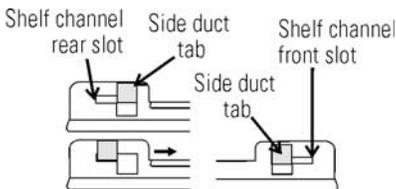

Figure 1-11
3. Install the shelf channels by placing the channel's rear slot over the appropriate rear tab on the side duct. Pull the shelf channel forward and engage the channel's front slot into the side duct's appropriate forward tab. Refer to Figure 1-11.